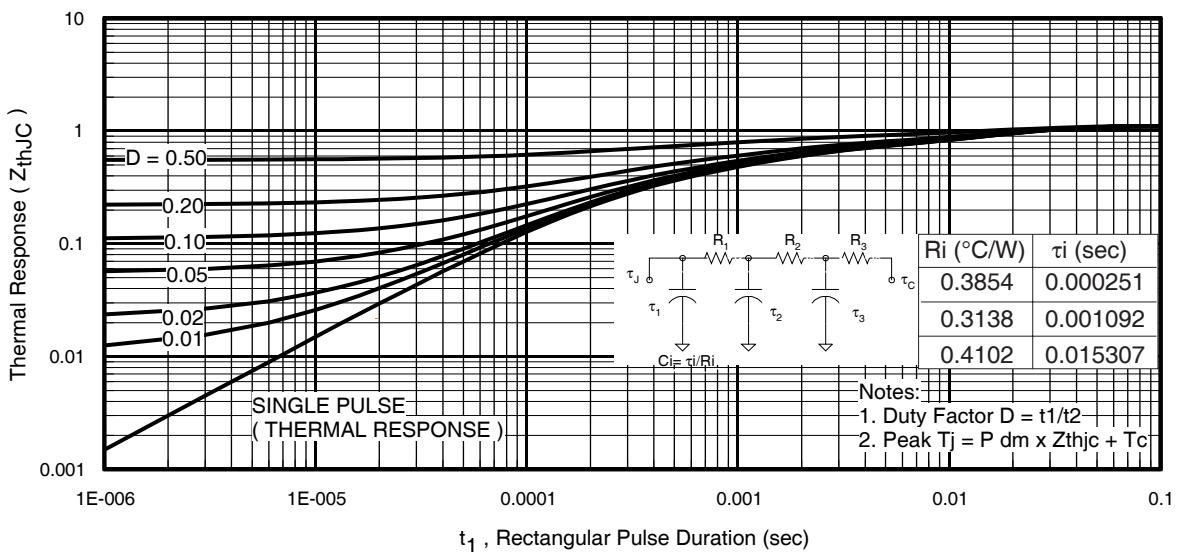

Fig 11. Maximum Effective Transient Thermal Impedance, Junction-to-Case
- $Z_{thJC}(D, t_{av})$ = Transient thermal resistance, see figure 11)
- ① Repetitive rating; pulse width limited by max. junction temperature. (See fig. 11).
- ② Limited by T_{Jmax} , starting $T_J = 25^\circ C$, $L = 0.13mH$ $R_G = 25\Omega$, $I_{AS} = 42A$, $V_{GS} = 10V$. Part not recommended for use above this value.
- ③ Pulse width $\leq 1.0ms$; duty cycle $\leq 2\%$.
- ④ $C_{oss\ eff}$ is a fixed capacitance that gives the same charging time as C_{oss} while V_{DS} is rising from 0 to 80% V_{DSS} .